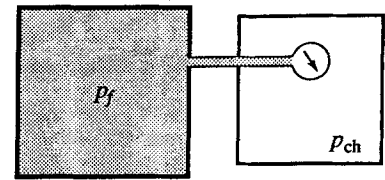

Figure X3.4.1b
3.4.1 A gage is connected to a tank in which the pressure of the fluid is 42 psi above atmospheric (Fig. X3.4.1a). If the absolute pressure of the fluid remains unchanged but the gage is in a chamber where the air pressure is reduced to a vacuum of 25 inHg (Fig. X3.4.1b), what reading in psi will then be observed?